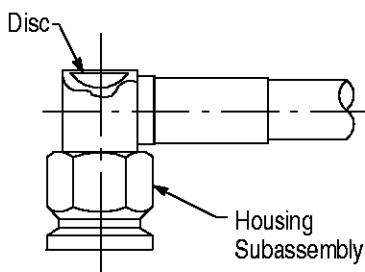

Figure 4
8. Press the disc into the opening at the back of the housing subassembly. See Figure 4. Remove the assembly from the locator tool. If preferred, apply epoxy to the disc to hold it in place. DO NOT allow epoxy to penetrate the housing subassembly.